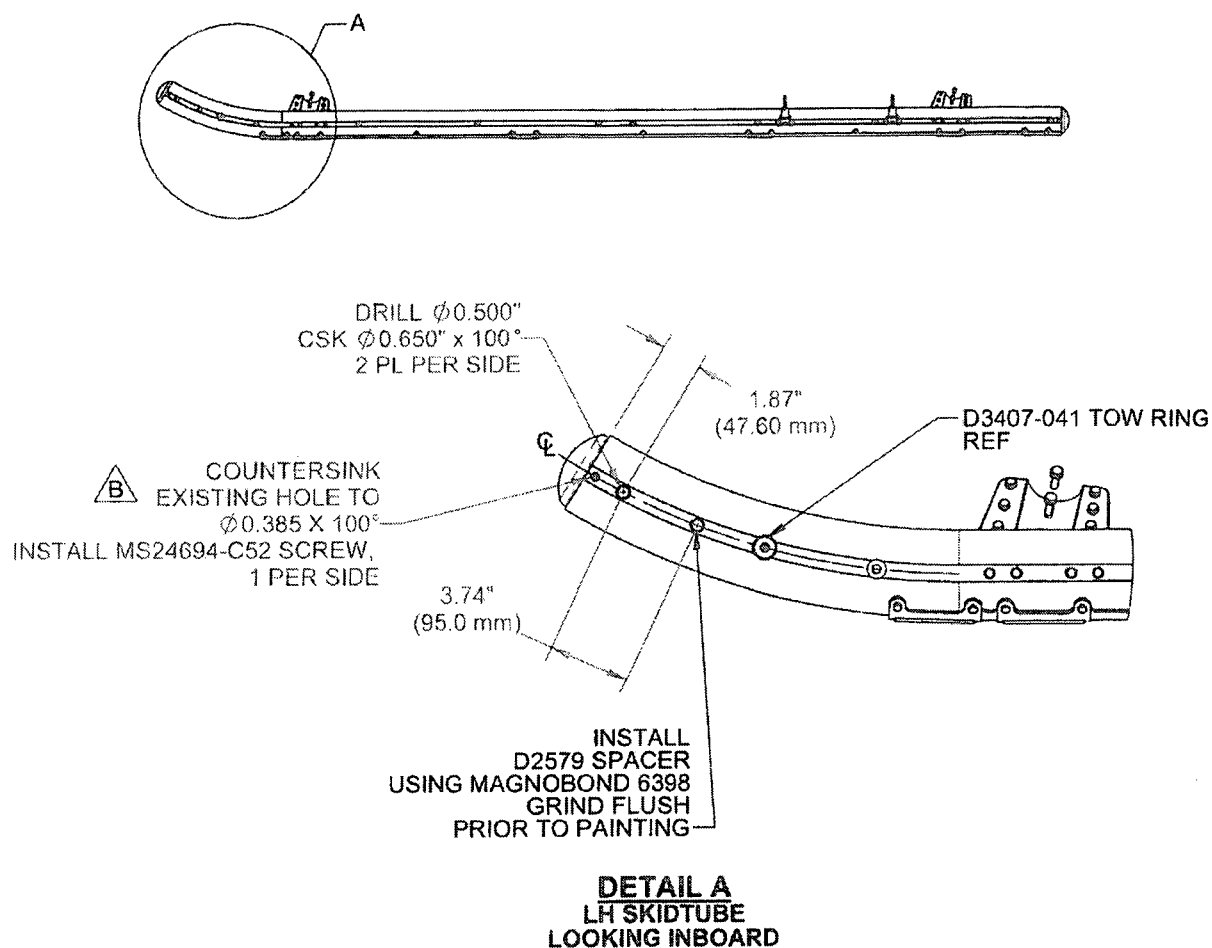

FIGURE 1. MODIFIED D119-646-XXX SKIDTUBE
- 2.2 Mark holes in the center ridge as shown in Figure 1. Drill through skidtube with $\varnothing 0.500"$ (12.7 mm drill), and countersunk to $\varnothing 0.650 \times 100^\circ$, two places per side.
- 2.5 Bond D2579 spacers into the $\varnothing 0.500$ holes center in the skidtube using Magnobond 6398. Grind flush prior painting as shown in Figure 1.